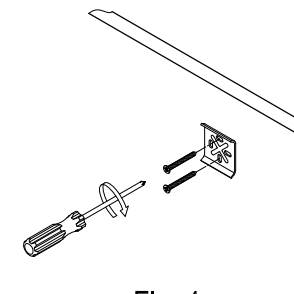

Fig. 4
- Step 6. Secure the mounting brackets (with the holes on a level) to the wall using the provided screws (fig 4).